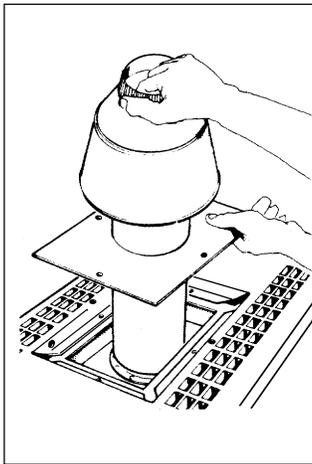

Figure 38. Installation of the Adapter Plate
10. Slide the adapter plate up over the bottom of the stack extension. Fit the stack extension on top of the collar of the flue transition plate (see Fig. 38).